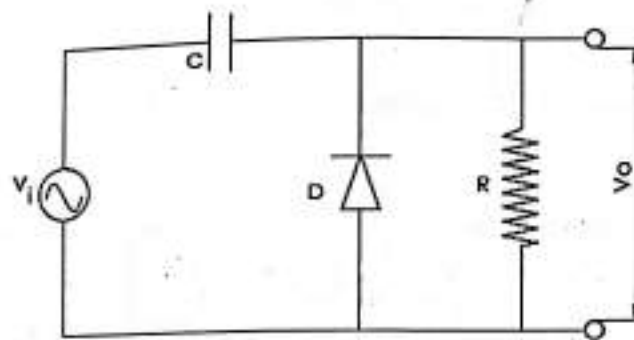

Figure 4a
- 10 Draw electronic circuit diagram of a positive clipper and an inverting amplifier as shown in Figure 4a and 4b